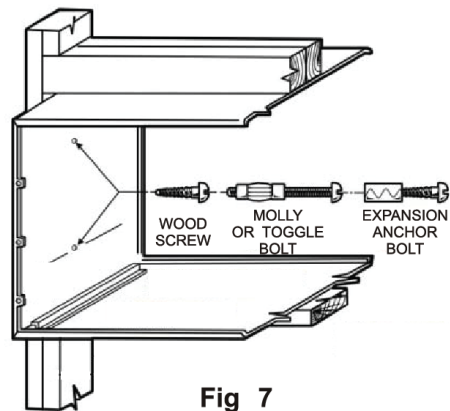

Fig 7
- Fastened to the wall flange as shown in Fig. 7.